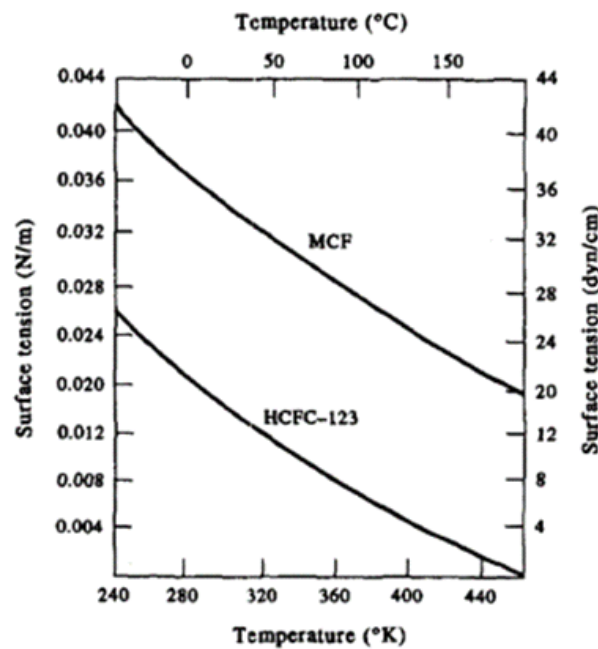

Figure 2: Surface tension as a function of temperature for HCFC-123 and MCF
- [b] Capillary action is important for liquid penetrant testing. Figure 2 shows the relationship between surface tension and surface wetting angle. Using two different penetrant in Table 1, calculate the height of the penetrant above the surface crack at 20°C with respect to crack length for both. From the calculations, which penetrant gives the smallest capillary height at this temperature for a constant crack size? It is given the contact angle is very small and $g = 9.8 \text{ m.s}^{-2}$. Other data is given in Table 1.